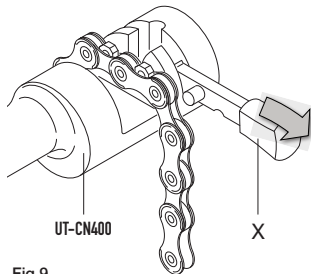

Fig.9
- Fit the link to be closed in the relative seats (Fig. 9).